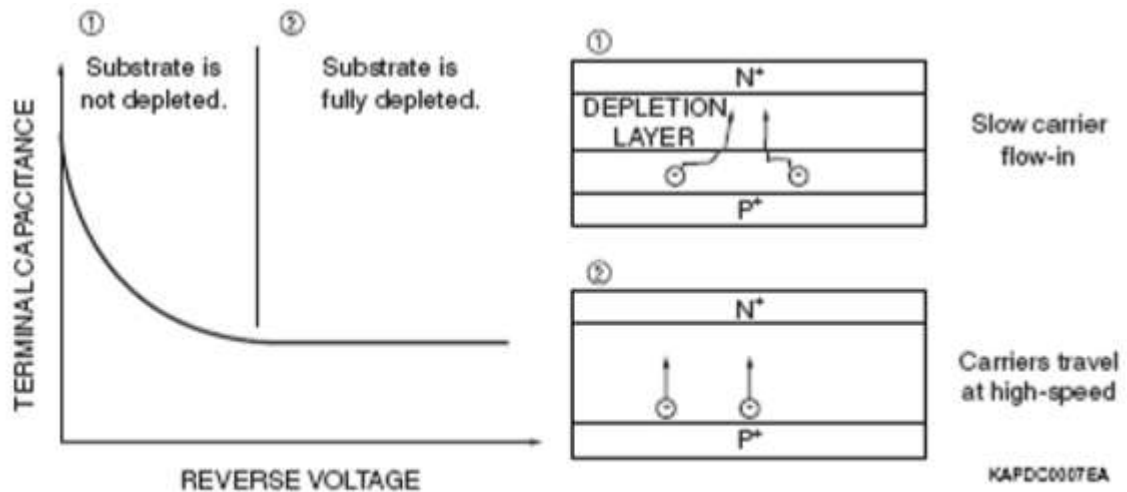

Figure 1-4 Terminal capacitances vs. reverse voltage
which makes the depletion layer thicker than the penetration depth of the light into the light absorption layer. If carriers are generated outside the depletion layer, they cause problems such as slow signal decay time. Since the terminal capacitance depends on the depletion layer thickness, it can be used as a guide to find to what extent the semiconductor substrate is depleted. Unlike the gain characteristics, the terminal capacitance is not temperature-dependent. However, it does vary depending on the reverse voltage, as shown in region (1) of Figure 1-4. So use the APD at a reverse voltage that ensures a constant terminal capacitance as in region (2)